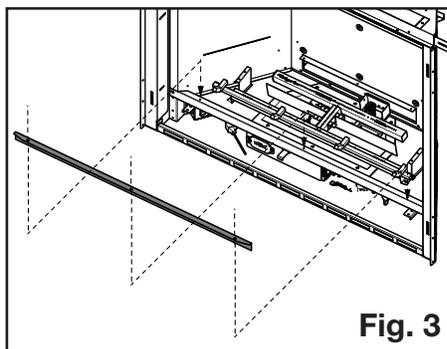

Fig. 3
- 6. a) When converting to natural gas (AX42 only), the front air deflector must be removed (Fig. 3).
b) When converting to propane (AX42 only), the front air deflector must be installed (Fig. 3).